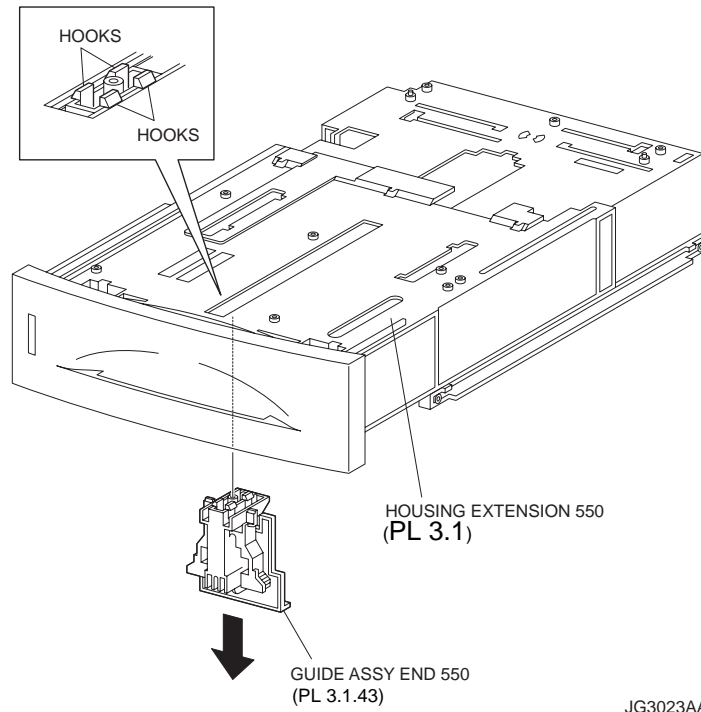

Figure 2. Guide Assembly End 550
- 13) Release the hooks securing the GUIDE ASSEMBLY END 550 to the HOUSING EXTENSION 550 (PL 3.1) (Figure 2).